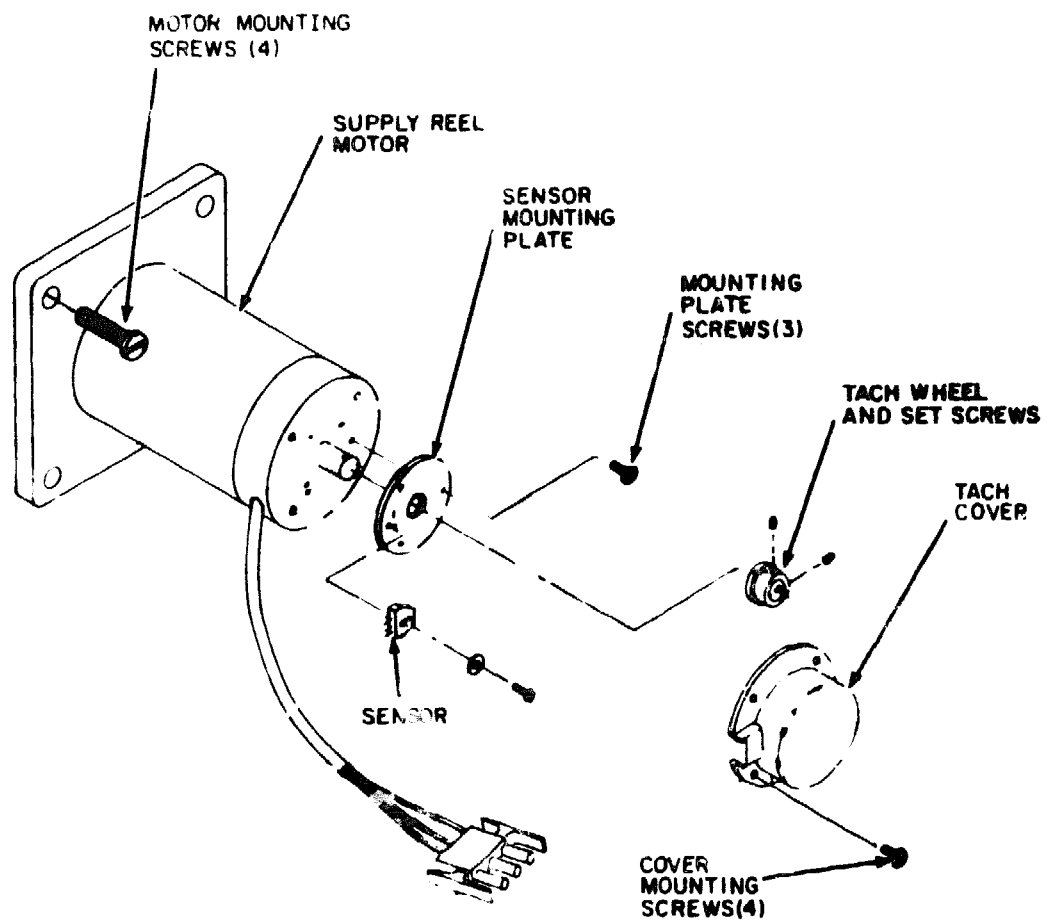

Figure 5-10. SUPPLY MOTOR ASSEMBLY
3. Remove the tach cover and mounting screws from the motor (Figure 5-10). Retain for reuse.
6. Remove the mounting screw and the sensor from the mounting plate on the supply reel motor. See Figure 5-10. Retain for reuse.
2. Remove four mounting screws and the tach cover from the supply motor. See Figure 5-10.